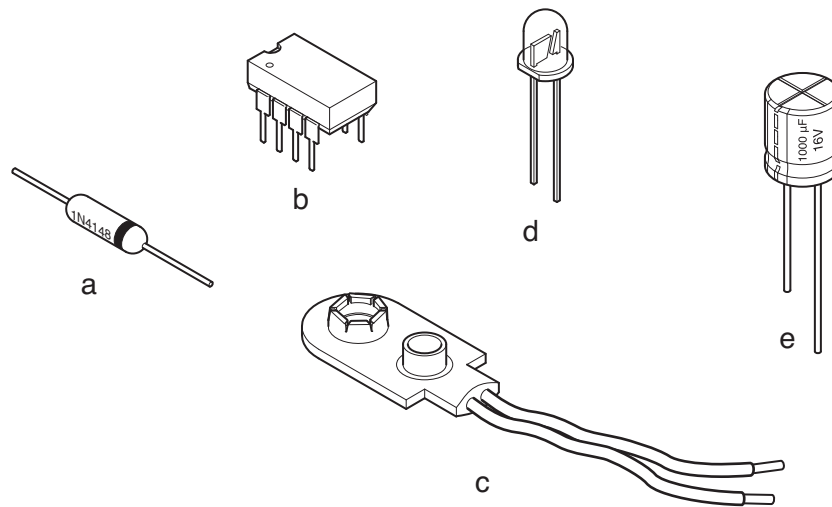
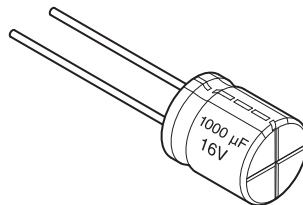

Fig. 1
Fig. 2
Fig. 1 shows five components that have to be fitted the correct way round in a circuit.
- (ii) Fig. 2 shows the information on the side of component **e** from Fig. 1.